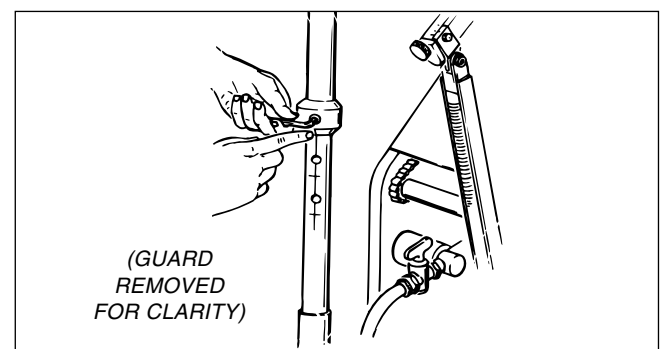

FIGURE 3, Tooling
16. Put a 1/4 inch allen wrench in drive tube (*see Figure 3*).